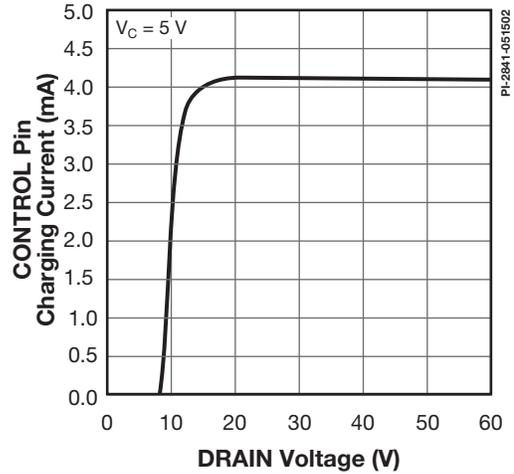

Figure 45.  $I_c$  vs. DRAIN Voltage.
- It is possible to start up and operate DPA-Switch at DRAIN voltages well below 16 V. However, the CONTROL pin charging current is reduced, which affects start-up time, auto-restart frequency, and auto-restart duty cycle. Refer to Figure 45, the characteristic graph on CONTROL pin charge current (IC) vs. DRAIN voltage for low voltage operation characteristics.